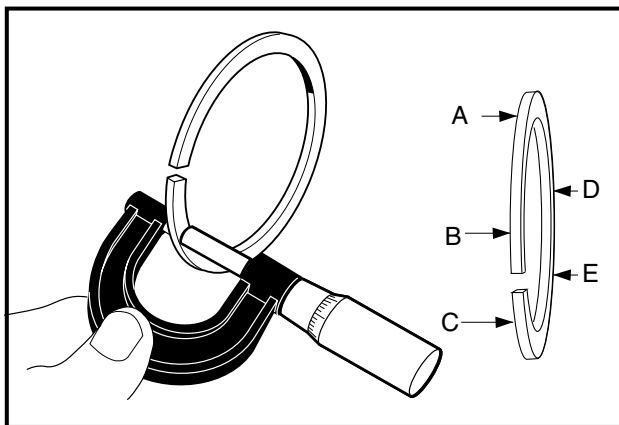

Figure 2-48 Measure Piston Ring Thickness
4. Use a micrometer to measure the thickness of both piston rings at several points around the rings (**Figure 2-48, Page 2-24**).